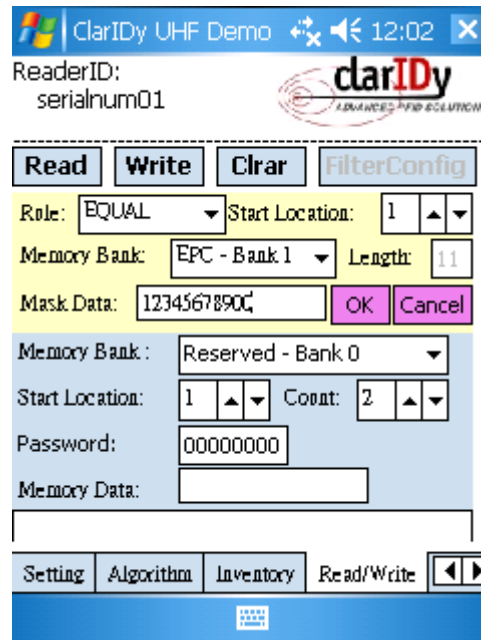

Figure 19 Set Read/Write Filter
6. Click the “OK” button”, as Figure 19.